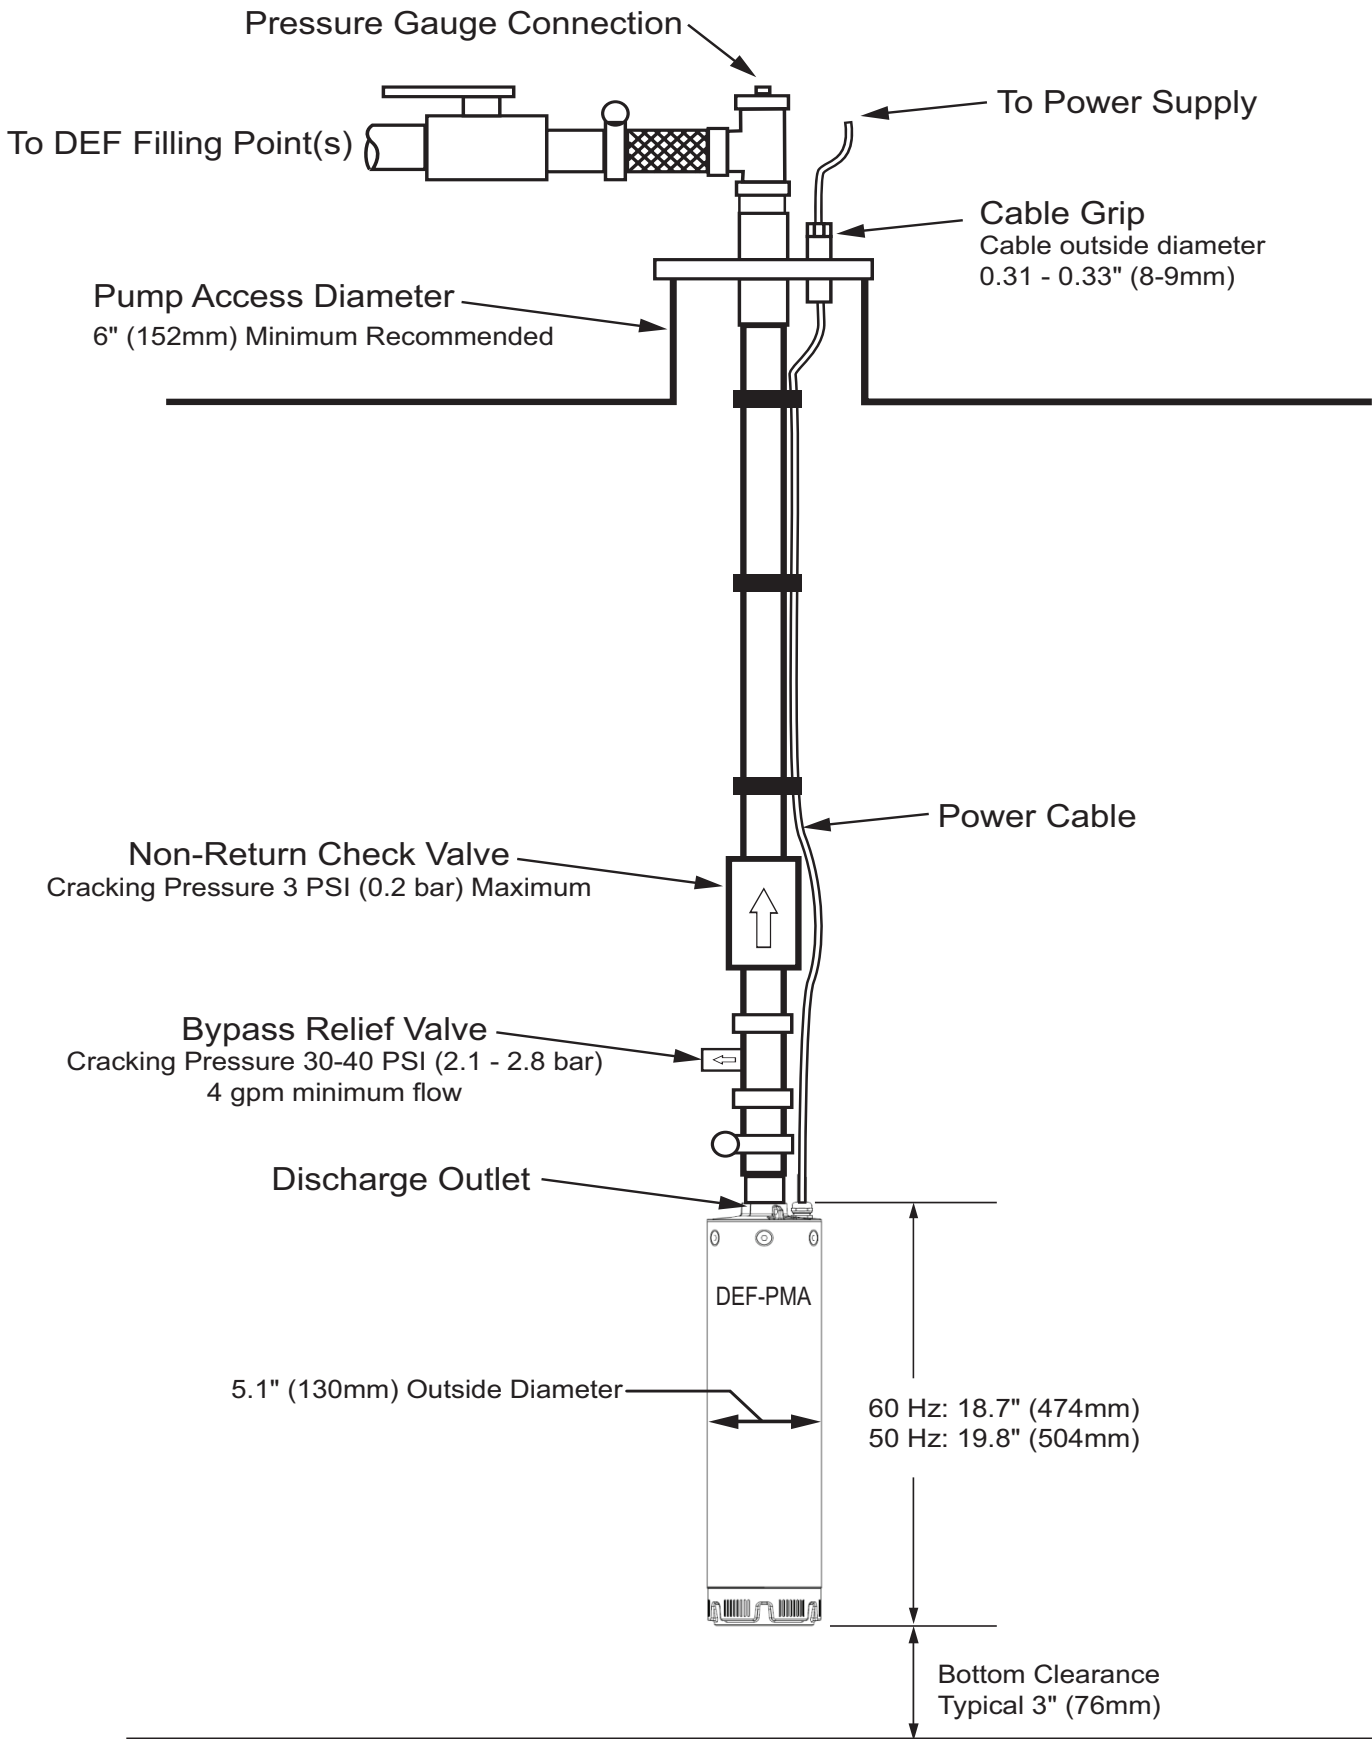

Figure 1: Typical DEF-PMA Installation
7. Verify that DEF Pump Assembly properly incorporates a Non-Return Check Valve and Bypass Relief Valve as specified above in Overview section (Reference Figure 1).
10. Fasten Power Cable to the DEF Pump Assembly product piping to prevent it from being damaged during install or extraction. (Reference Figure 1)